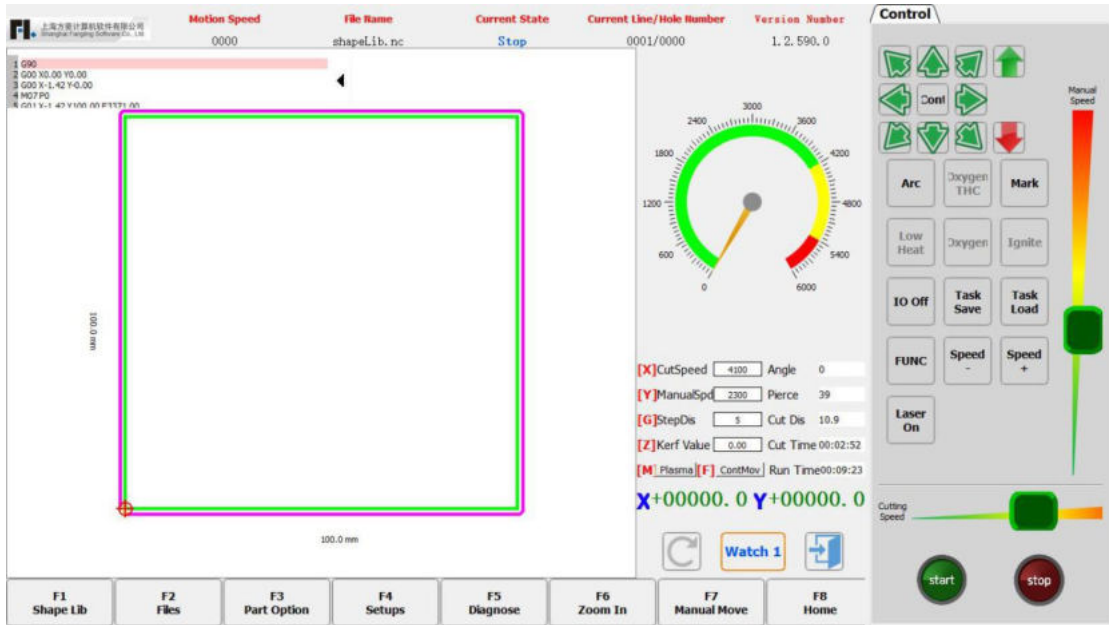

Figure 13.8 Main interface of F 7600 series
- Open F7600 software on desktop and operate the machining software, as shown in Figure 13.8: